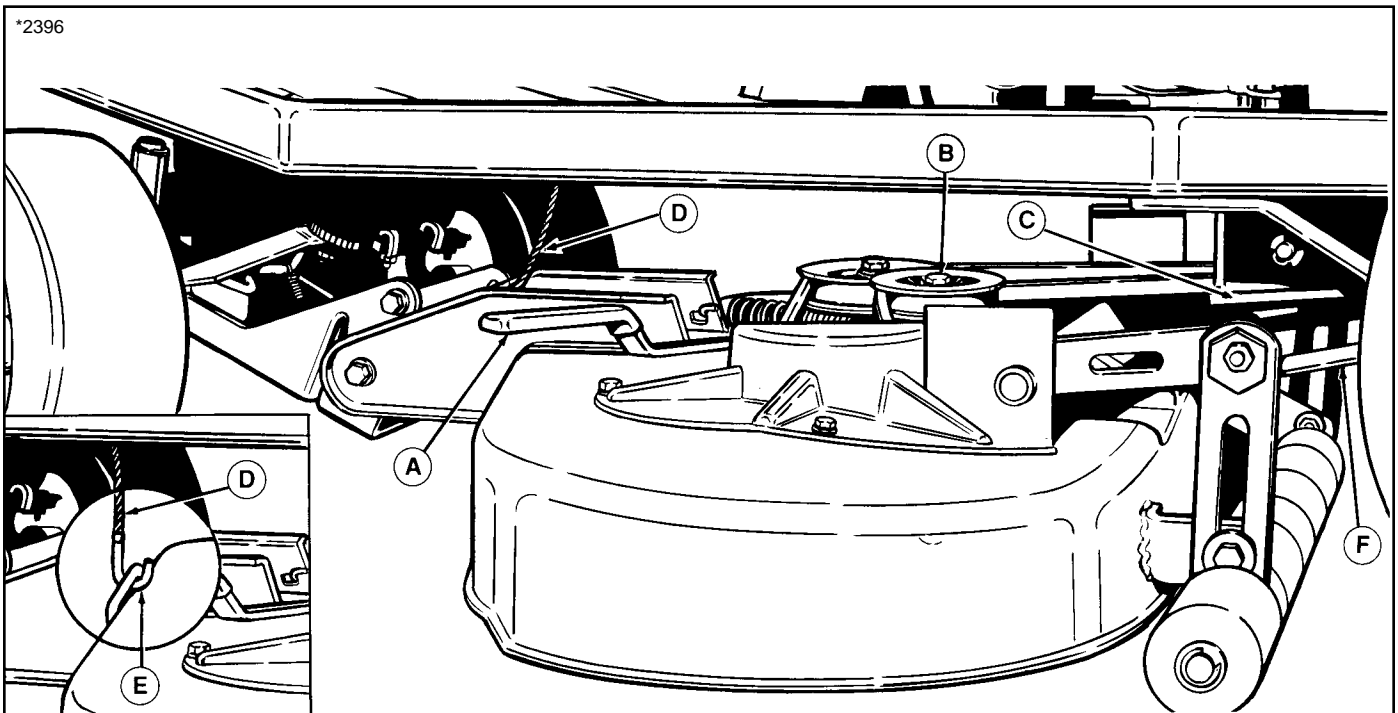

Figure 5. Mower Removal/Installation (34" mower shown)
NOTE: Perform mower installation on a hard, level surface such as a concrete floor. For easier mower removal and installation, rear trailing arms (F, figure 5) can be removed by removing spring clips and clevis pins.
2. On left-hand side of 34" mower, push idler pulley arm (A, figure 5) to relieve belt tension.
3. With belt tension relieved, remove belt from idler pulley (B, figure 5) and PTO pulley (C). Removing belt relieves tension on the front hitch assembly.
4. With lift lever down and Dial-A-Cut™ control set to the lowest setting, remove lift cable (D, figure 5) from mower hook (see inset illustration, figure 5).
7. To install mower, reverse above steps. Check mower belt pattern as shown in figure 7. Make sure that the mower lift cable is installed with hook toward the rear and rear trailing arms (F, figure 5) are positioned above rear torsion bar.